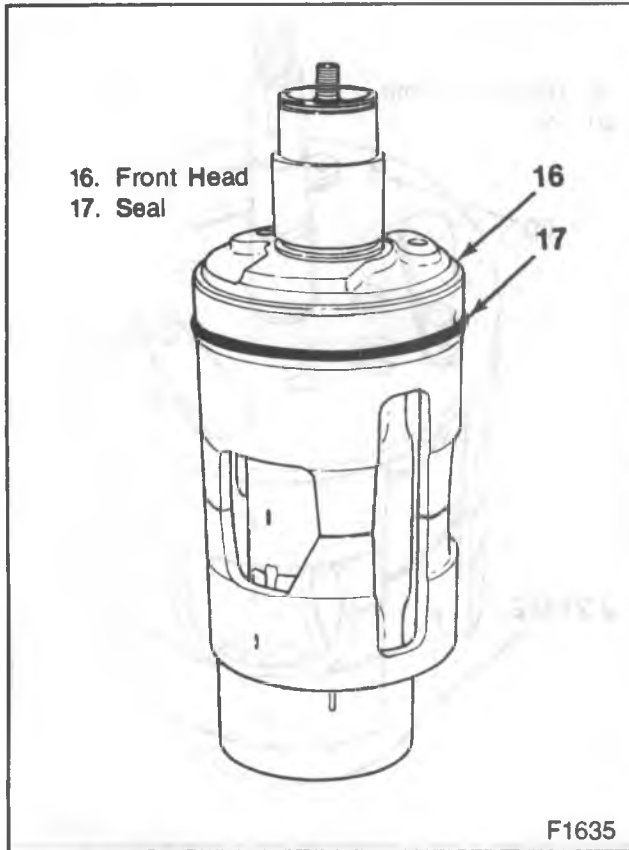
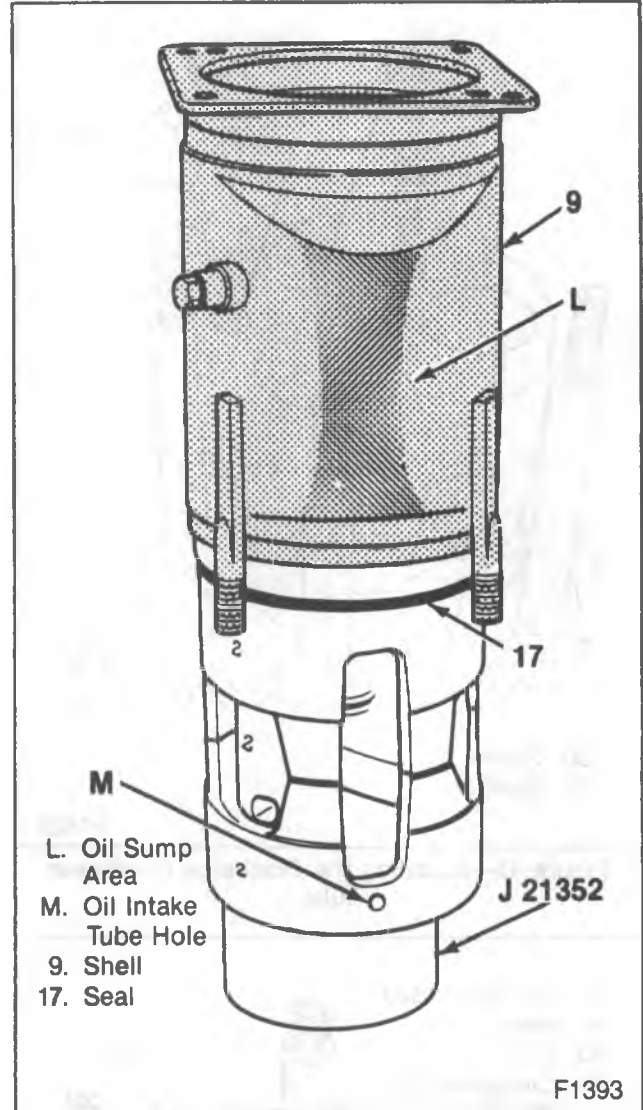
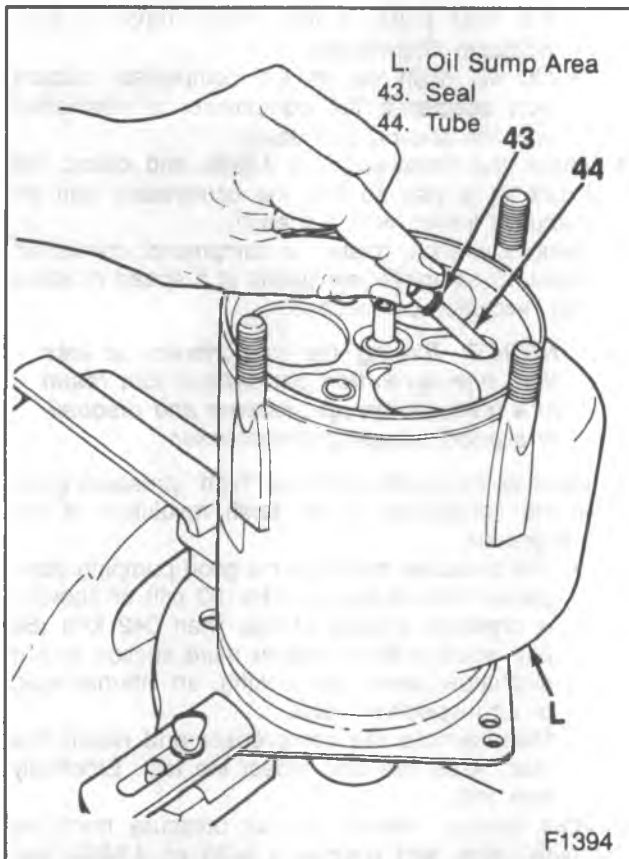

Figure 47—Installing the Front Head Seal
Figure 48—Installing the compressor Shell
Figure 49—Installing the Oil Pick-Up Tube
- Do not rotate the front head (16) to line up with the dowel pins because this will contact the reed container.
14. Seal (17) to the front head (16) (figure 47).
- Lubricate the seal (17) and groove with clean 525 viscosity refrigerant oil.
15. Shell (9) to the internal assembly (figure 48).
- Coat the inside of the shell (9) with clean 525 viscosity refrigerant oil.
- Position the shell (9) on the internal assembly. Rest the shell (9) on the seal.
- With the flat side of a small screwdriver, position the seal (17) in a round, circle shape to the inside of the shell (9).
- Slide the shell (9) down. Line up the oil sump with the oil intake tube hole.
16. New dowel pins (20) to the rear cylinder half.
17. Seal (43) to oil pick-up tube (44).
18. Oil pick-up tube (44) to the compressor (figure 49).
- Lubricate the oil pick-up tube (44) with clean 525 viscosity refrigerant oil.
- Place the oil pick-up tube (44) in the cavity.
- Rotate the compressor assembly to align the tube (44) with the hole in the shell baffle.
19. Seal (31) and bushing (30) to the rear of the discharge cross-over tube (26).